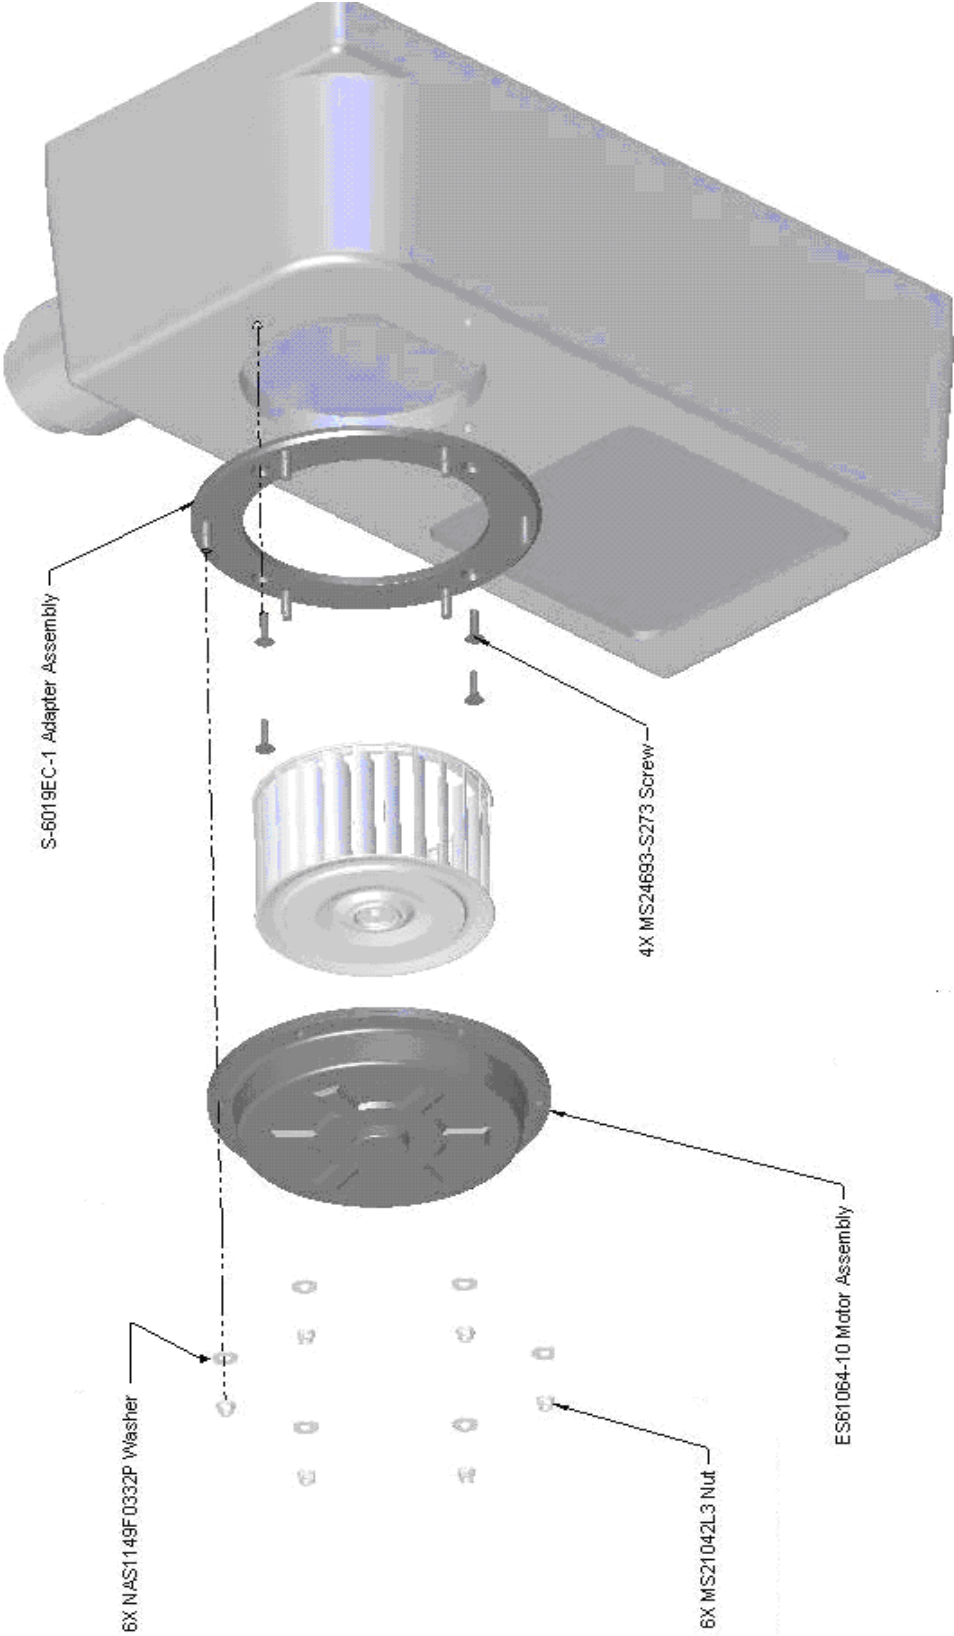

Figure 3.0 Blower Motor / Wheel Evaporator installation
5. Install S-6019EC-1 Adapter Assembly onto to evaporator assembly using 4 each MS24693-S273 screws. (Figure 3.0)
6. Install S-61064-10 motor/blower wheel assembly into evaporator enclosure using 6 each NAS1149F0332P washers and 6 each MS21042L3 nuts (Figure 3.0). Care should be taken to orient new electrical leads with existing wires to aid in splicing.